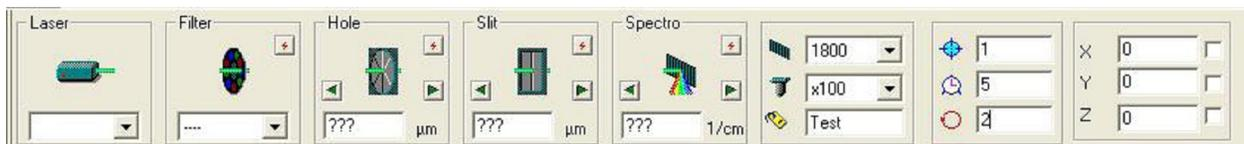

Fig.10 Software control panel
- 5.15. The parameters in the control panel of the software need to be changed before measurement. To change the values in the fields, write the number and then press ENTER. Wait for the software to respond and update (which can be seen from the bottom right corner of the software window). (Fig.10)
- 6.5. Change the wavelength option in the control panel of the software to 325nm. (Fig.10)
- 7.2. Set the grating to 600IR on the software window control panel. (Fig.10)